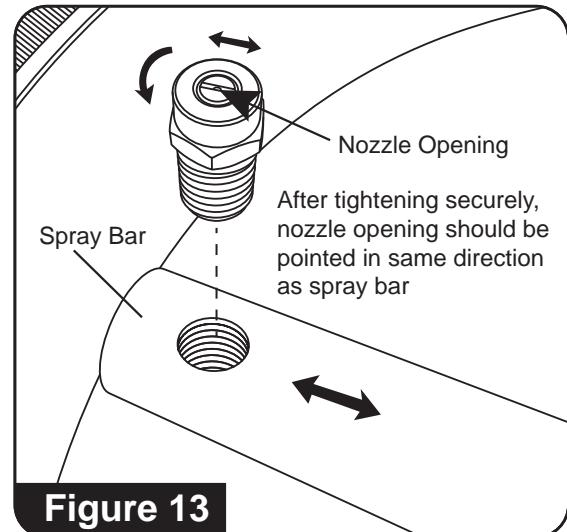

Figure 13
7. Reinstall the nozzles to the spray bar. Tighten securely. Align the nozzle opening as shown in **Figure 13**.